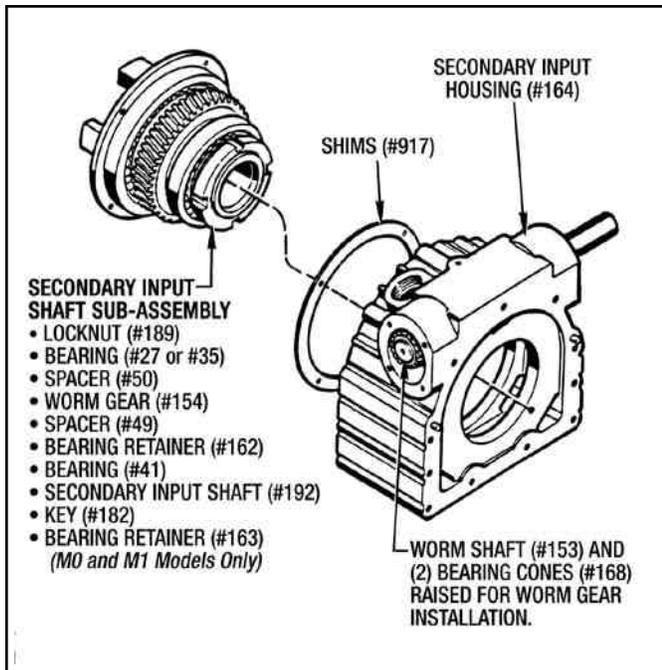

Figure 9.05 - Installing Secondary Input Shaft Sub-Assembly
- Insert the assembled Secondary Input Shaft into the rear of the housing, as shown in Figure 9.05.